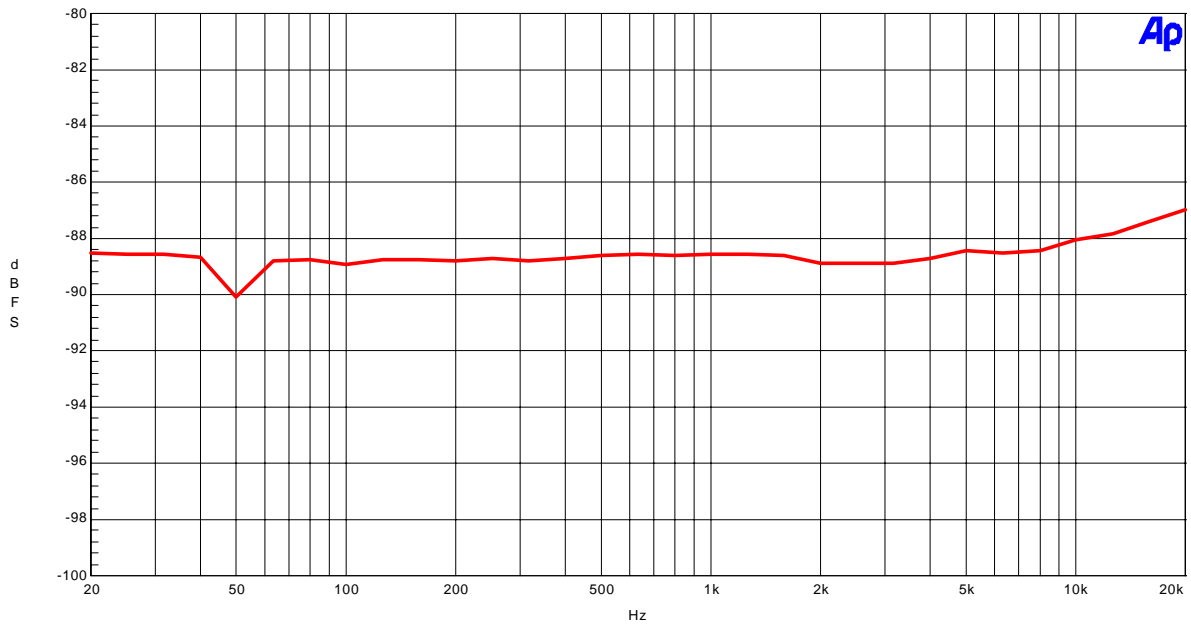

Figure 6. Cross-talk (fs=48kHz; -1dBFS input)
- Figure 6. Cross-talk (-1dBFS input)